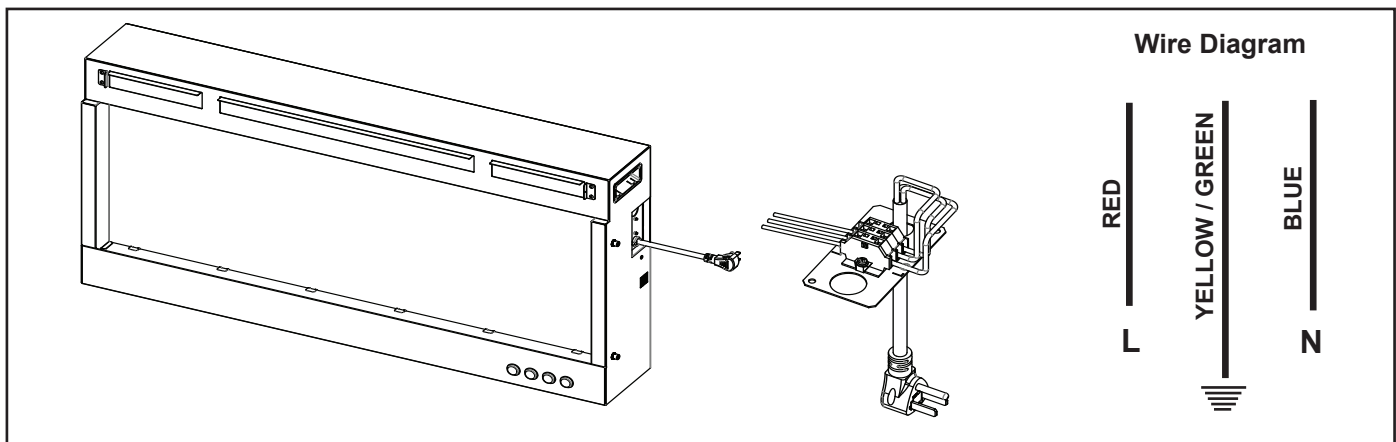

Figure 4.15 Optional Power Cord Assembly (Only for Direct Wall Mount Installation)
3. Connect the three appliance wires to the terminal block supplied with the power cord kit. See Figure 4.15.